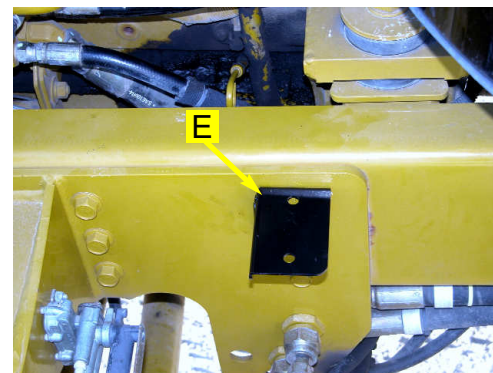

Figure 2b. Automated Steering Block mounting bracket (installed).
- b. Loosen the top two bolts and install the Automated Steering Block mounting bracket (**E**). Tighten the frame bolts to secure the mounting bracket. (Figure 2b.)